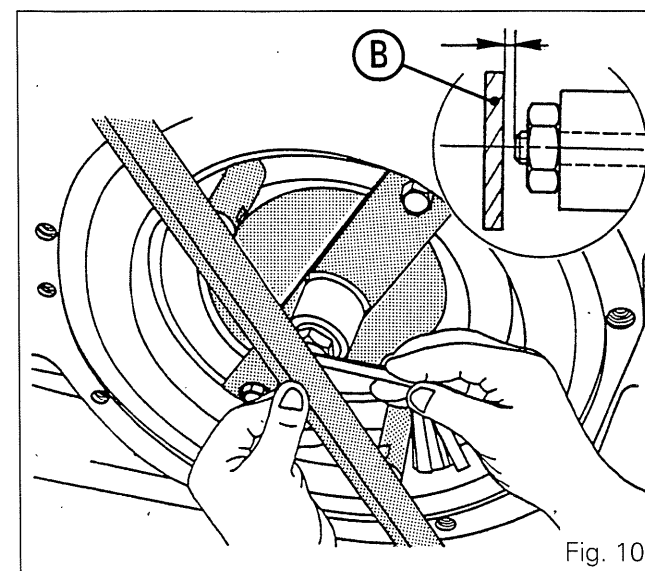

Fig. 10
62. Using a set of feeler gauges, measure the clearance J between the finger of the tool and the rule B (Fig. 10).